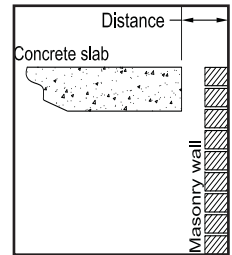

Fig. 5.21
- 2- Measure the distance from the edge of the slab to the face of the brick (fig. 5.21).